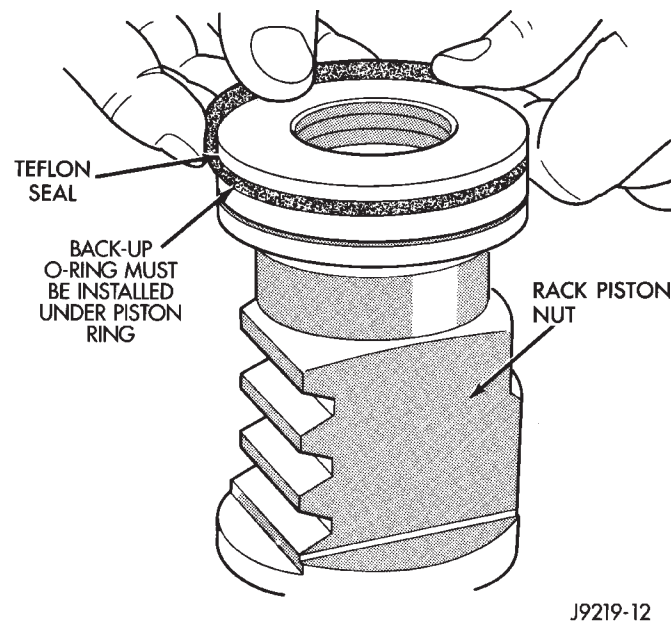

Fig. 22 Rack Piston Teflon Ring and O-Ring
- (11) Remove teflon ring and O-ring from the rack piston (Fig. 22).